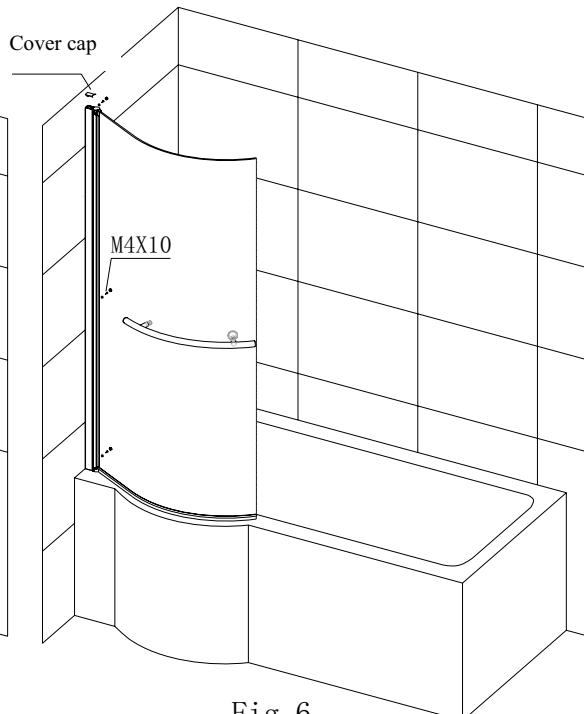

Fig. 6
6) Use the M4x10 screws to connect the pivot doors with the wall profiles .As Fig.6